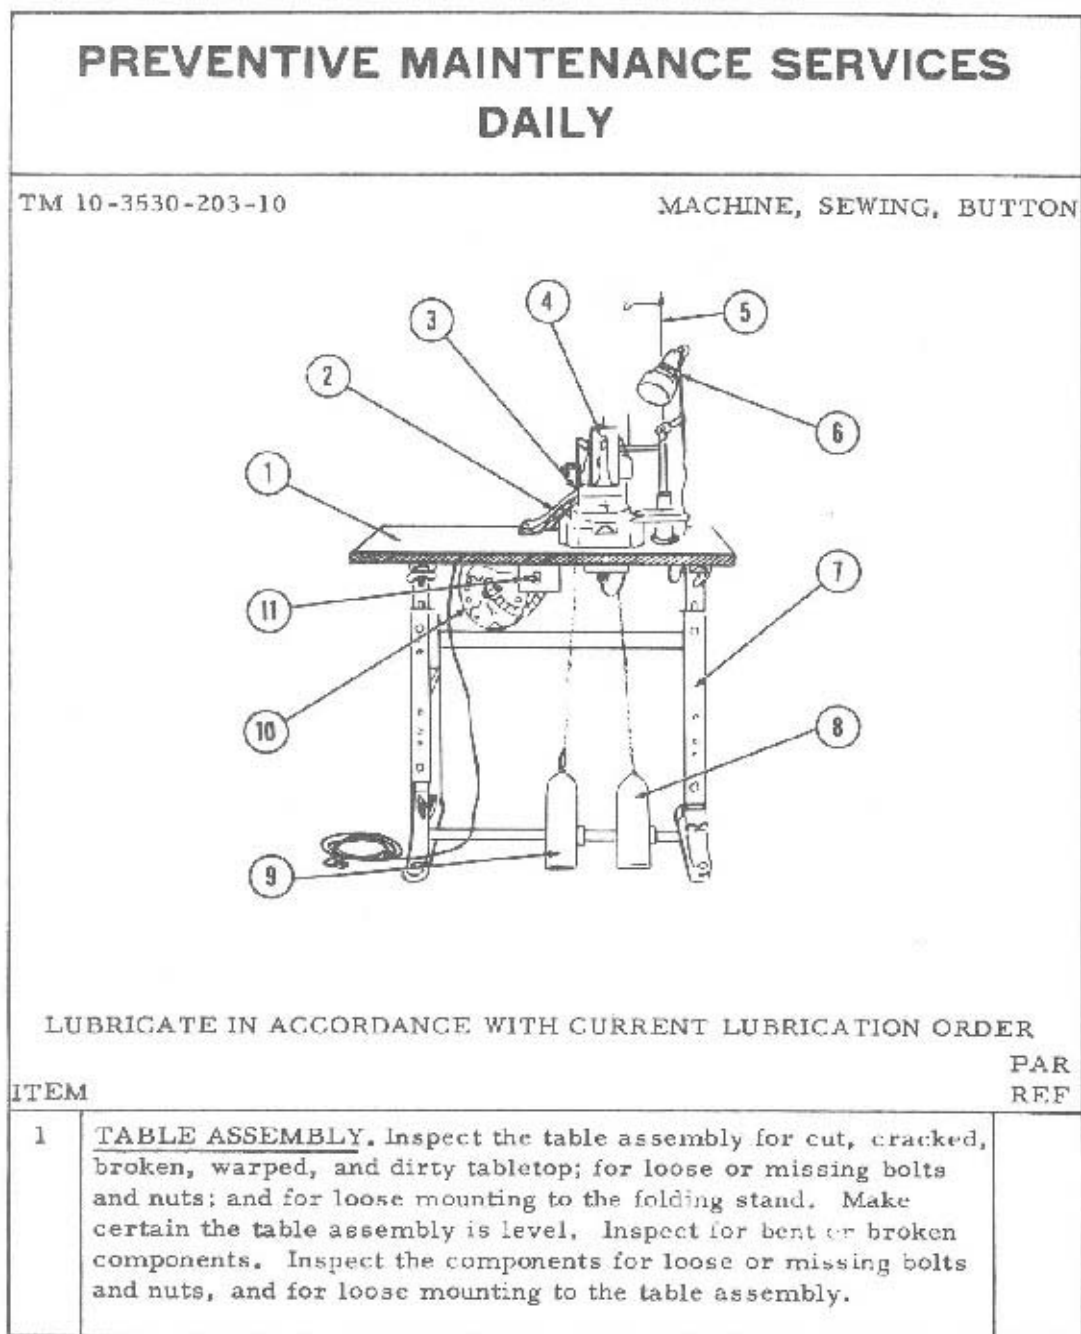

Figure 3-103
1. Perform before-operation maintenance. (See Figure 3-103, 3-104, 3-105